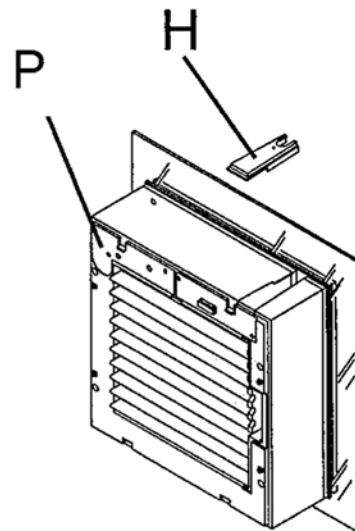

fig. 9
9. Remove the cover from the cable entry (H) and carefully cut a suitable hole in it. Thread the connection cable through the hole until it reaches the connection box cover (I) connect the cable to the terminal strip (K) as shown in the corresponding wiring diagram. (**FIG 9**)
9. Remove the cover from the cable entry (H) and carefully cut a suitable hole in it. Thread the connection cable through the hole until it reaches the connection box cover (I) connect the cable to the terminal strip (K) as shown in the corresponding wiring diagram. (FIG 9)